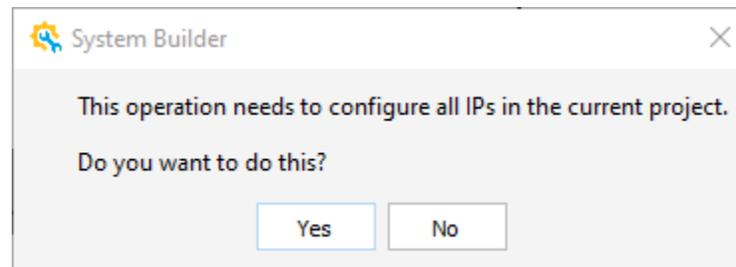

Figure 2.88. System Builder Dialog
3. Click **OK**. The System Builder dialog (Figure 2.88) pops up showing a message of configuring all IPs.